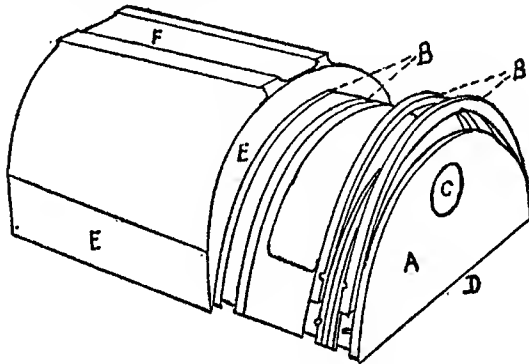

FIG. 75.—GOULD BALANCED VALVE.
**The Gould Balanced Valve.**—The valve illustrated in Fig. 75 is an improved type of D slide valve. It is a semi-circular-shaped casting having the back turned and faced. The valve body A has a hole C through which the valve rod passes and is provided with snap rings BB which fit in corresponding grooves in each end of the valve body. The admission edge of the end of the valve is at D. The bottom of the valve is identical with the plain D slide valve. The